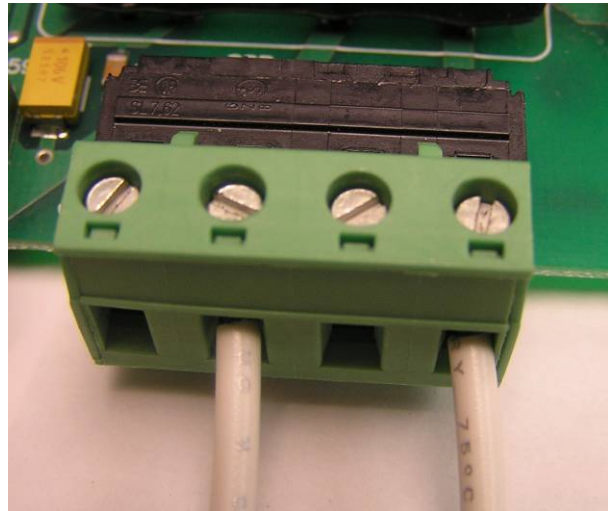

Figure 11: J4 Connector
- a. Move the wire in the Phoenix Connector Labeled J6 from Pin 1 to Pin 2, and plug the Connector into J4 on URC2 Board. As seen in Figure 11.